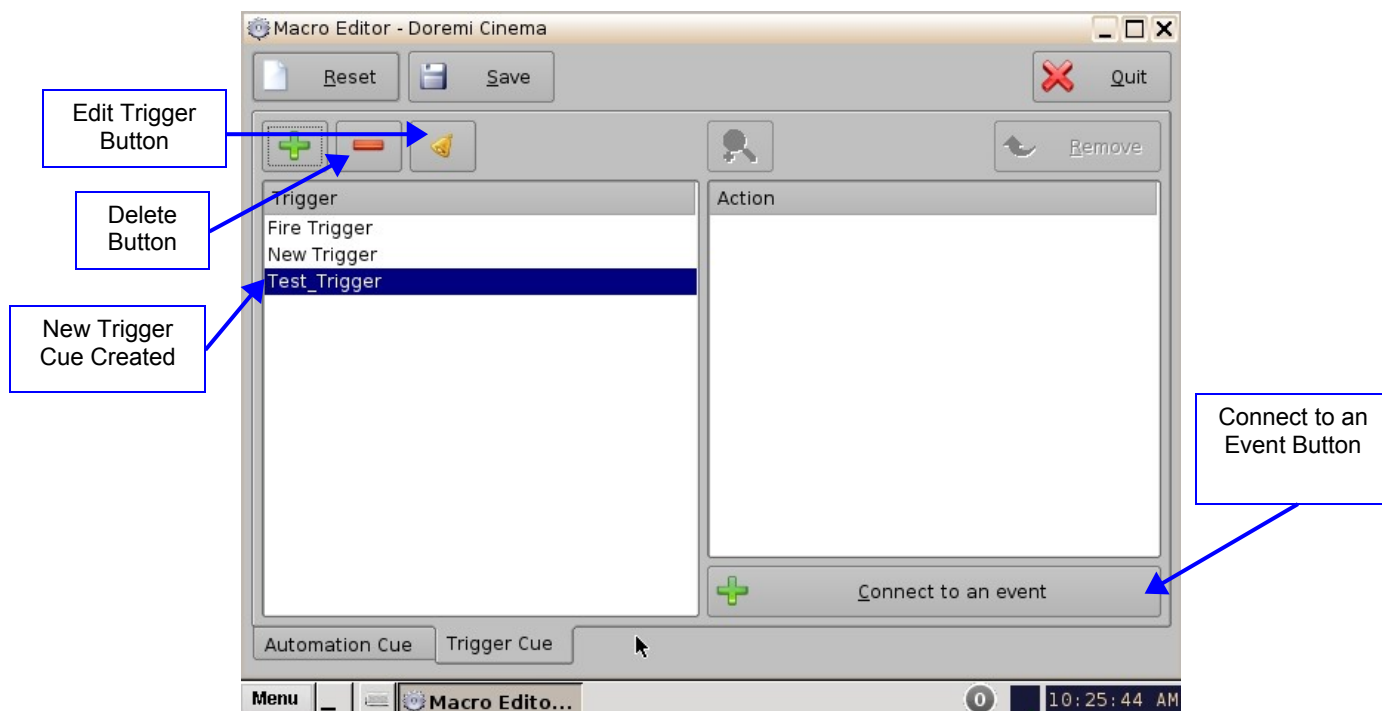

Figure 196: Trigger Cue Defined
- To edit an existing Trigger Cue, select it in the Trigger window and click on the Edit Trigger button (Figure 196).
- To connect a Trigger Cue to an event, select it in the Trigger window and click the Connect to An event button (Figure 196).